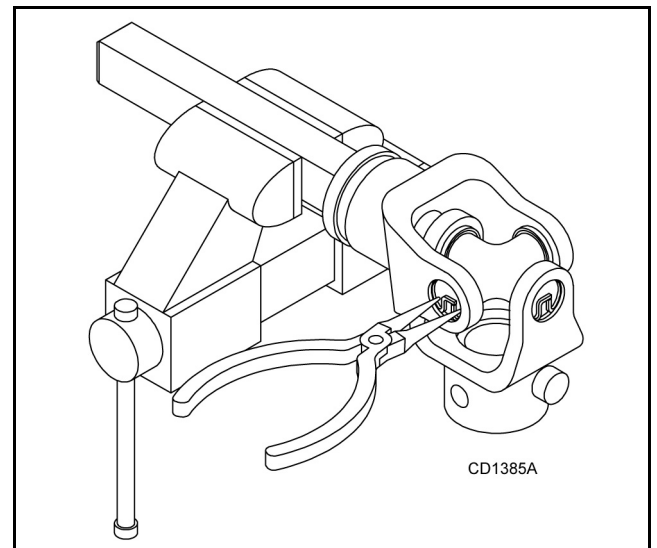

Figure 15
1. Remove external snap rings from yokes in four locations as shown in Figure 15.